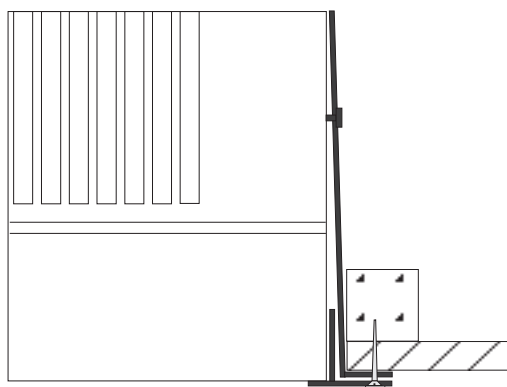

Fig 1
1) Locate the brackets flush with the front of the heater. Place unit in ceiling from below and secure brackets with woodscrews provided. (see Fig 1). Ensure sufficient space is left to allow the insertion of the grille frame between heater and bracket. This option may require electrical connection prior to positioning. The grille frame is then positioned and fixed with the 2 round headed screws provided.